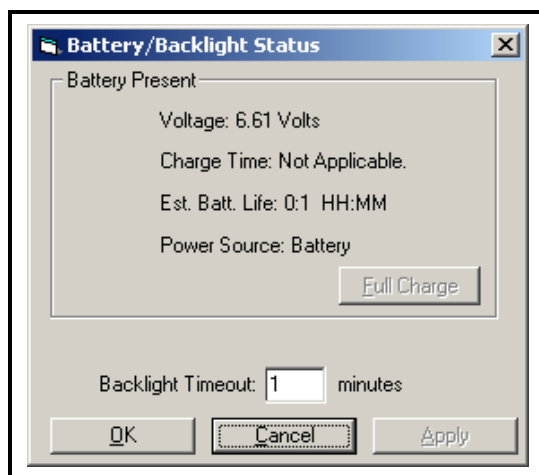

Figure 35: Battery/Backlight Status
2. From the network tree, double-click on "Battery/Backlight." The "Battery/Backlight Status" window appears, as shown in Figure 35 below.